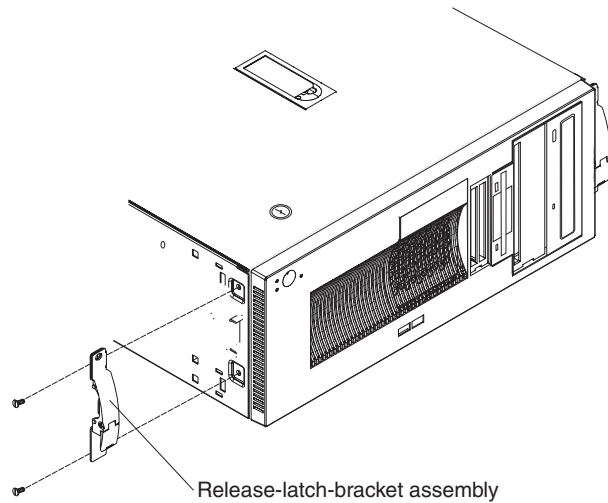

Figure 1. Installing the release-latch-bracket assemblies
7. Connect the serial cables from the multi-port serial card in the DS4000 Alert Manager Appliance to each storage server controller, as shown in Figure 1. You can identify the DS4000 Alert Manager Appliance-specific serial cables by the red band at one end of each cable.
- a. Connect one end of the analog telephone cable to the bottom port on the DS4000 Alert Manager Appliance modem (labeled “Line” in Figure 1 on page 7.)